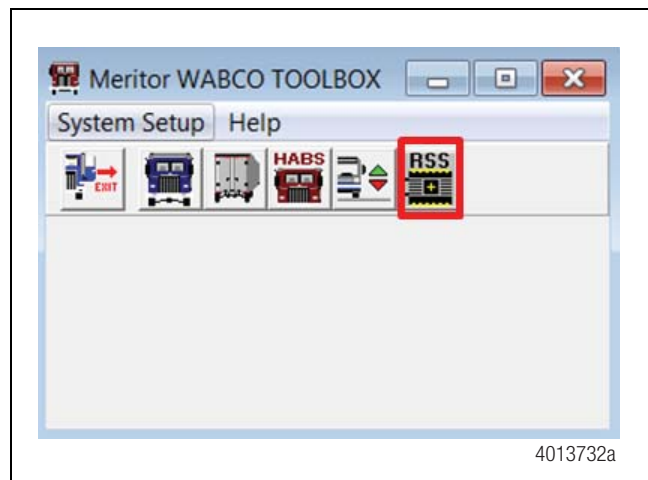

Figure 4
2. Click on the **RSS** icon to initiate the Roll Stability System portion of TOOLBOX™ Software. Figure 4.